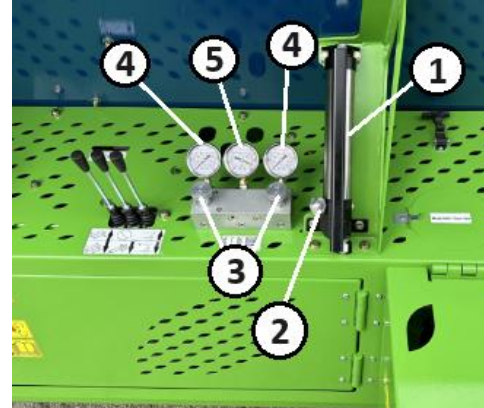

Figure 71. Brake System Control
3. At the very end of the load, safely and slowly release the wheel brakes. See Figure 71.